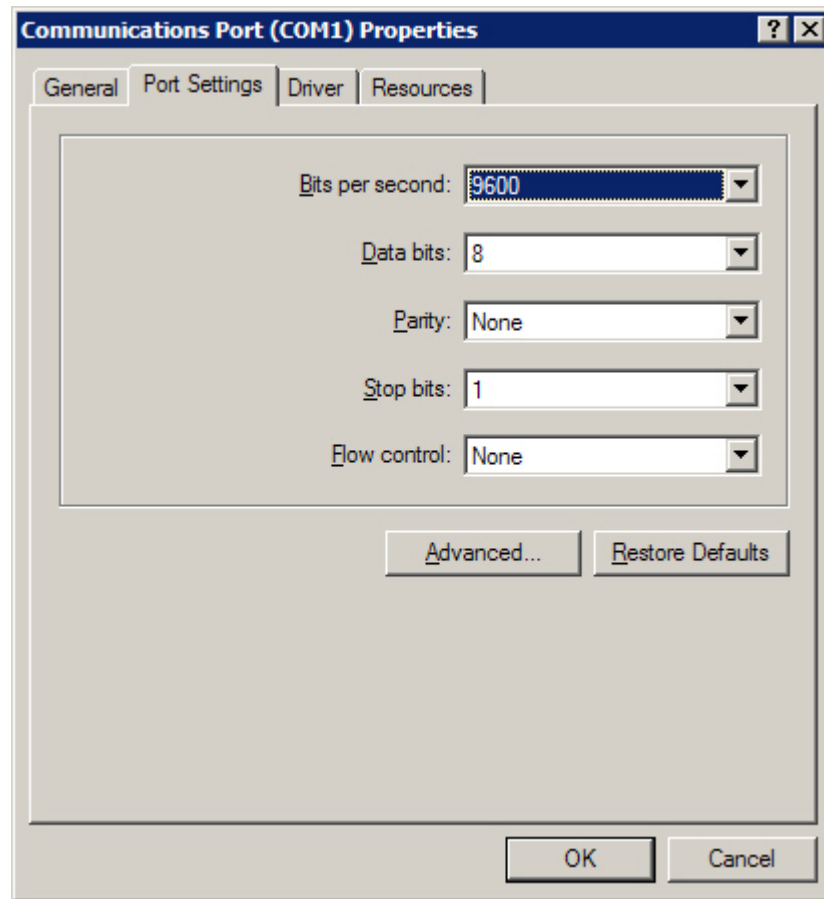

Figure 4. Port Settings tab
6. Click the **Port Settings** tab (see Figure 4).